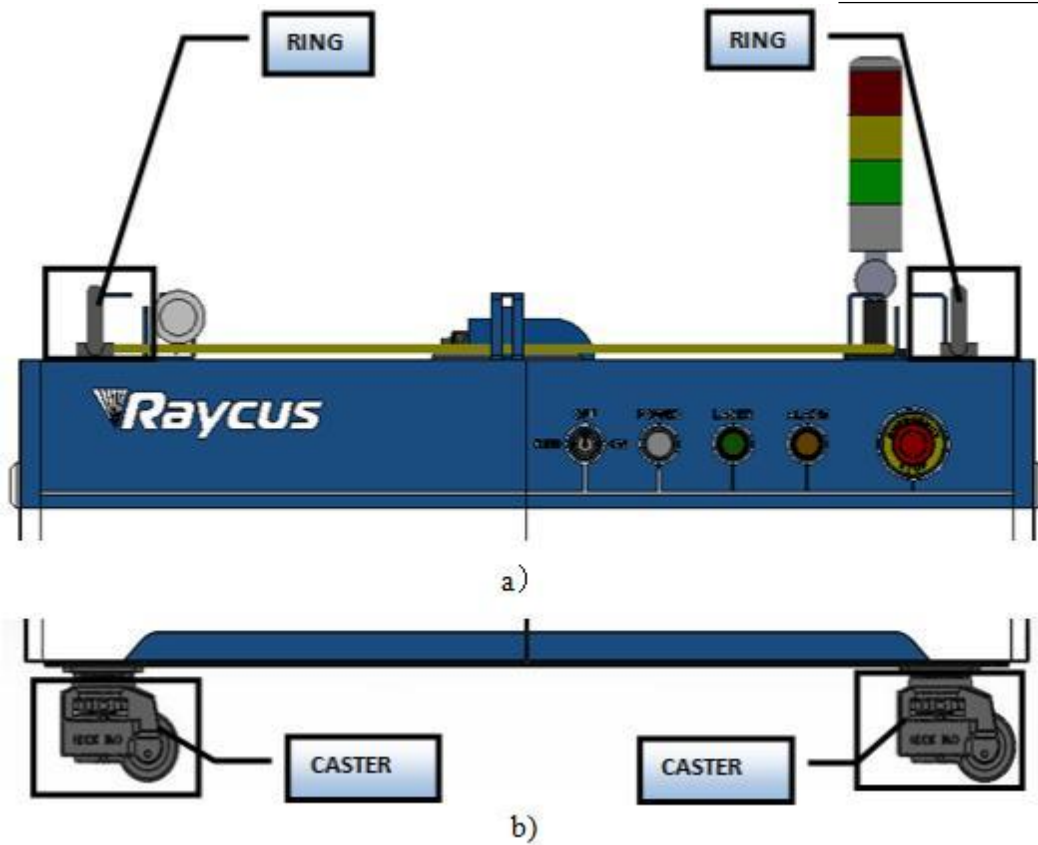

Figure 4 Laser top lifting ring and bottom level adjustment caster.
- i) Customers can use the four lifting rings at the top of the product or the four casters at the bottom to lift or move the product. Before lifting the laser source, make sure that the four lifting rings are installed firmly and reliably. When lifting the laser source, be sure to use the four lifting rings; when pushing the laser source, please make sure that the support block at the bottom of the horizontal adjustment caster is off the ground. After the laser source is positioned, adjust the support block to make it contact the ground to avoid displacement of the laser source. As shown in Figure 4.